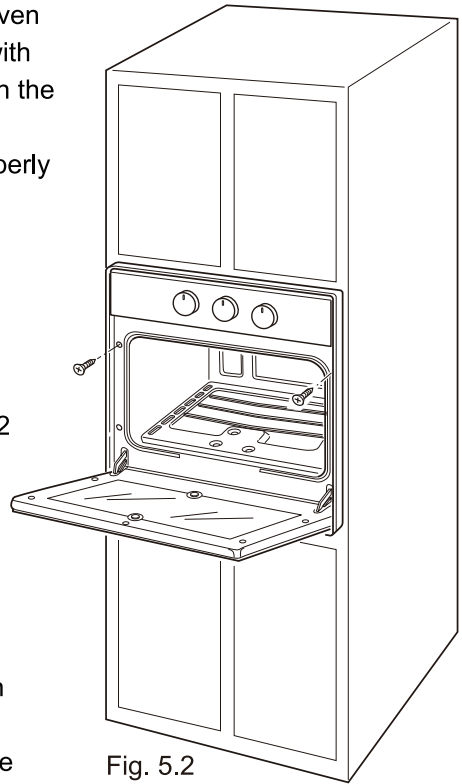

Fig. 5.2
For SAFETY CONSIDERATIONS the oven SHALL BE FASTENED to the cabinet with two (2) SUITABLE screws (supplied with the unit) through the holes in the trim (see fig. 5.2). The unit should be leveled properly before being secured to the cabinet.